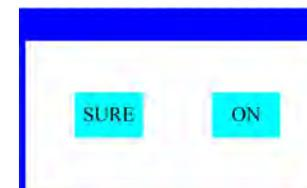

Figure 5 Dialog of confirm
- When the parameter is a key item, chick corresponding item, a dialog shown in Figure 5 will been popup ask for the confirm. Chick ' sure' to confirm.